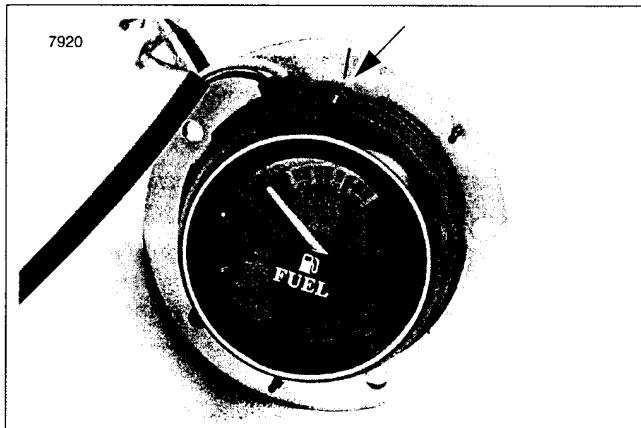

Figure 8-50. Aligning Second Mark
5. See Figure 8-50. Turn gauge clockwise to align with second scribed mark on sending unit.